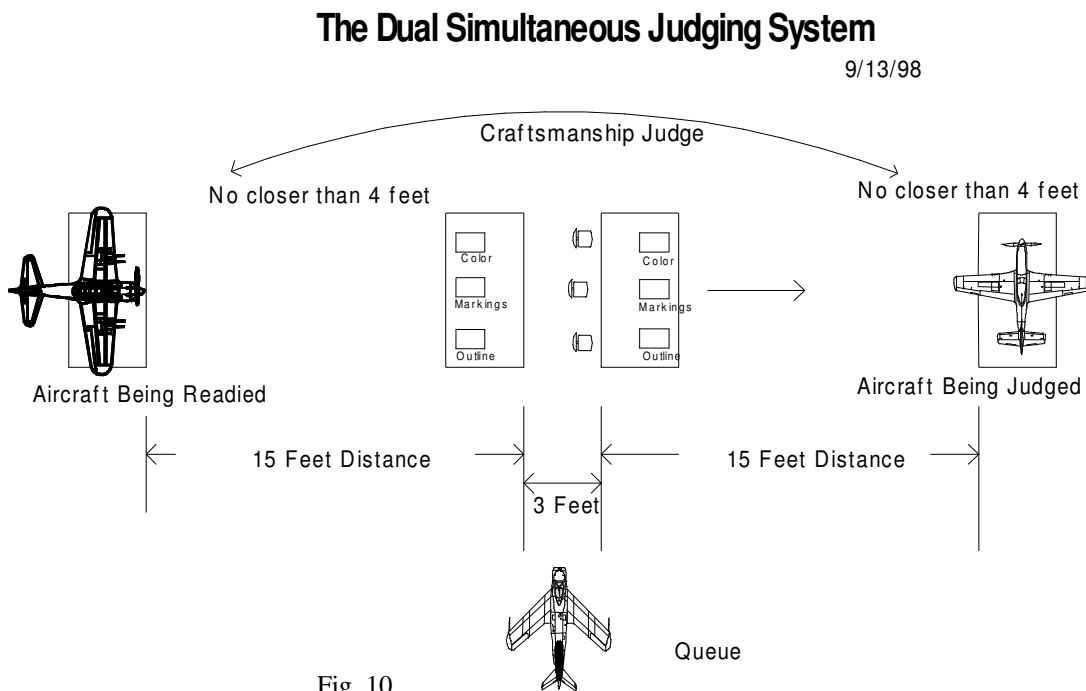

Fig. 10
9.11 Static Judging. If more than 20 contestants are expected, the Dual Simultaneous Judging method is suggested where two additional tables are set up (See Fig. 10 below). While one aircraft is being judged, the other is being set up and the documentation is prepared on the table behind the judges. When the judges are finished with one aircraft, they turn around, pick up the documentation and immediately begin judging the next aircraft. This system is capable of 8 aircraft per hour, which still gives the equivalent of 22.5 judging minutes per plane (7.5 minutes x 3 judges).